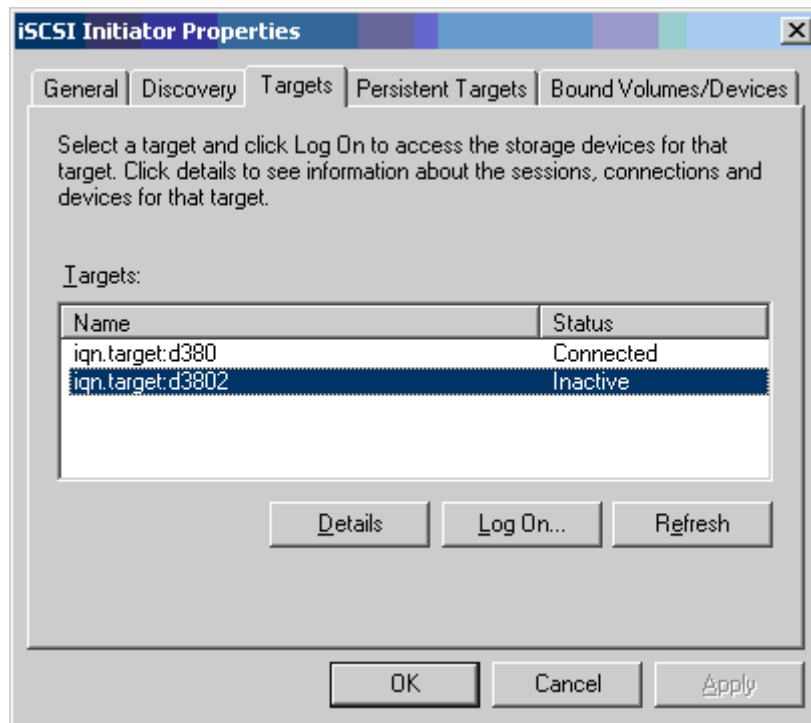

Figure 11-13. iSCSI Initiator Properties: Targets Page
- On the Targets page, select the target, and then click **Log On** to log into your iSCSI target using the Marvell iSCSI adapter. Figure 11-13 shows an example.